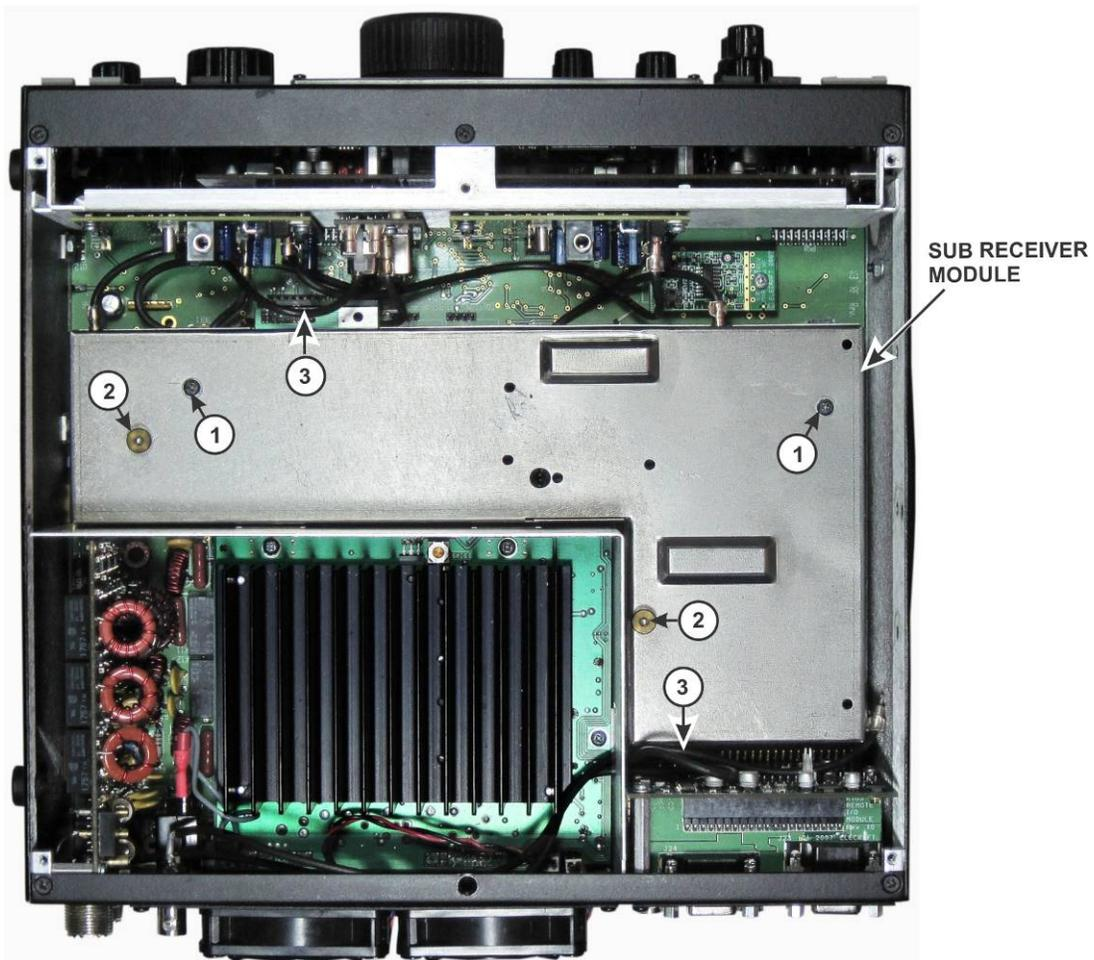

Figure 5. Removing the KRX3 or KRX3A Module.
The sub receiver module is the “L” shaped metal enclosure (see Figure 5). Remove the sub receiver module as follows:
- Remove the KRX3 RF module as follows. The circled numbers refer to Figure 5 on page 9.
- Remove the two long screws (1) that attach the sub receiver enclosure to the K3 main board.
- Replace the two long screws that attach the sub receiver enclosure to the K3 RF board (See Figure 5 ① on page 9).